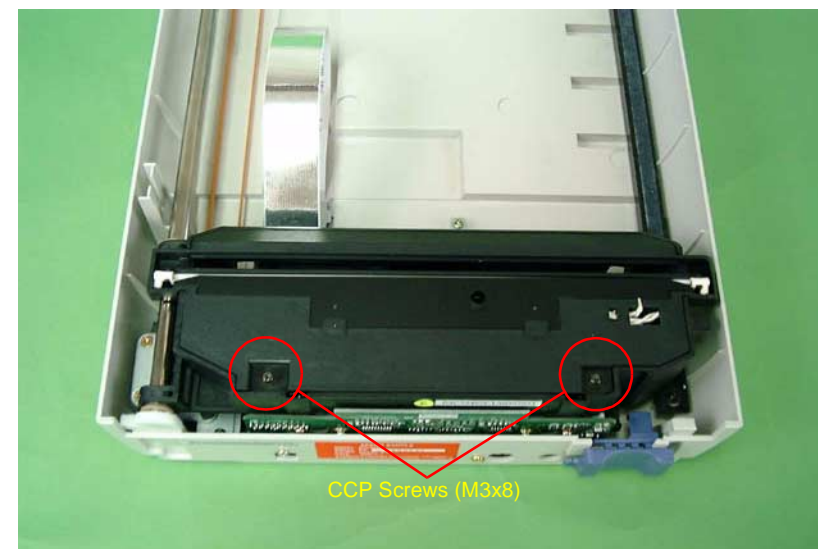

Figure 4-8. Carriage Unit Disassembly (1)
4. Remove the two screws (CCP, M3x8) on the Carriage Unit. (See Figure 4-8.)